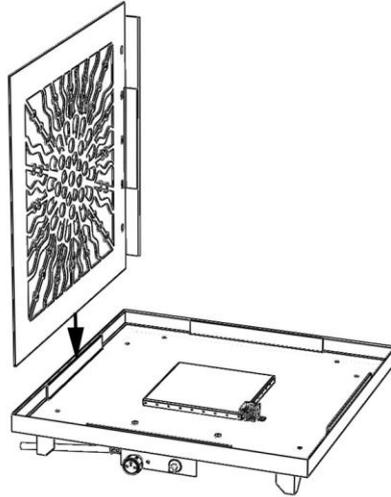

Figure 1
2. Place on side panel in the gap between the outer angle iron and the retaining tab as shown in Figure 1